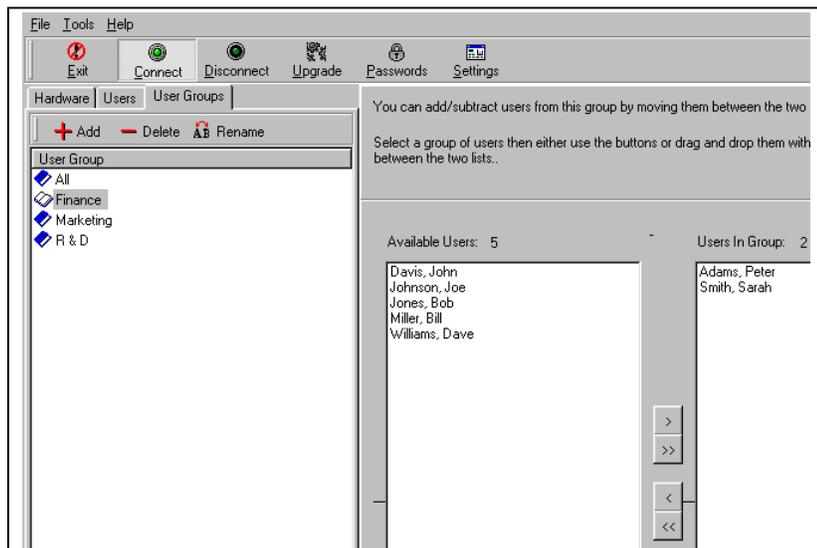

Figure 5.14. Add/Remove users from user groups
3. Add or remove users to or from the list on the right side of the screen. (see Figure 5.14 below)